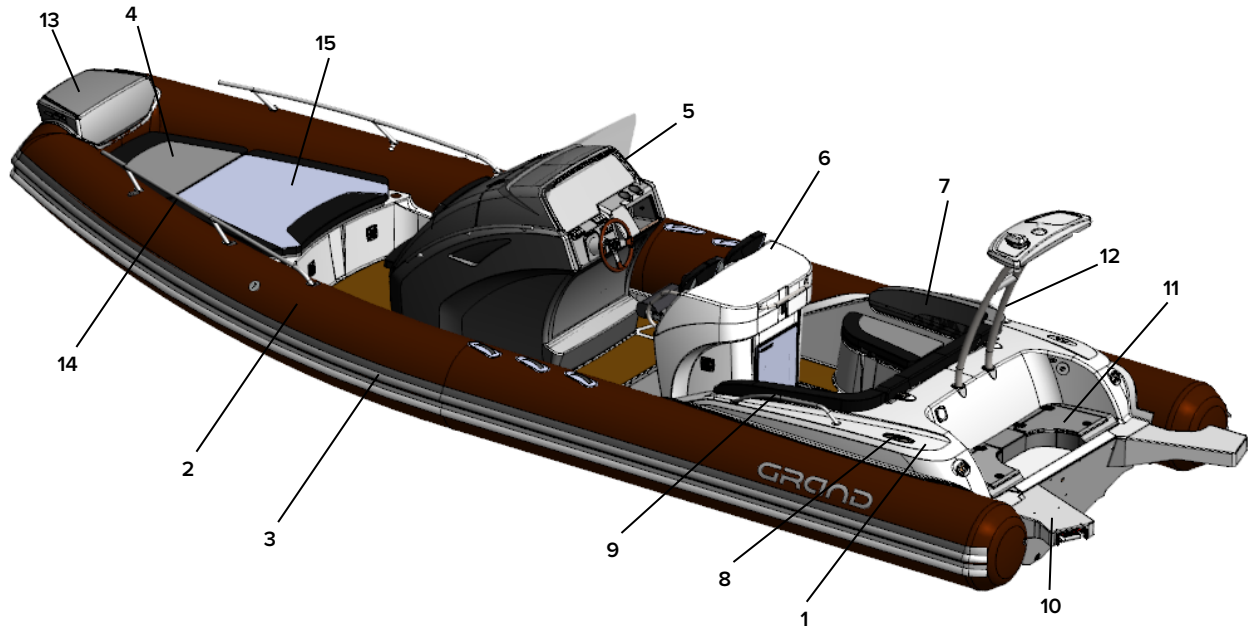

Fig. 52. General arrangement of a boat.
*General arrangement of a boat* (see fig. 52 on the previous page):